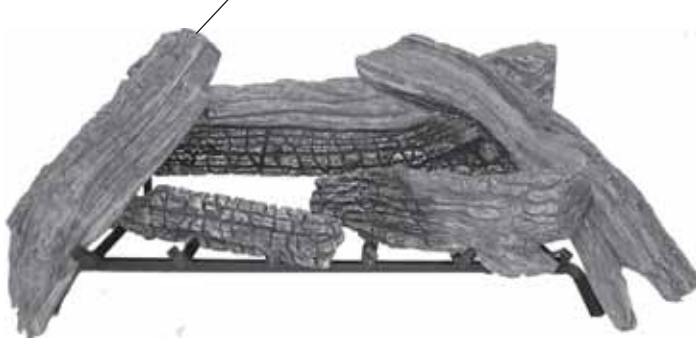

Figure 89 - Installing Bottom Front Left Log (#5)
6. Rest Bottom Left Log #5 on back log #1 and to the outside of the left grate prong. *See Figure 89.*